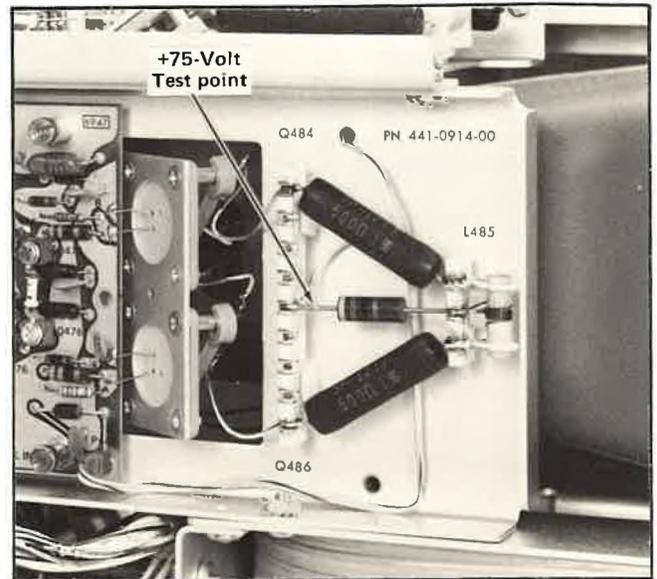
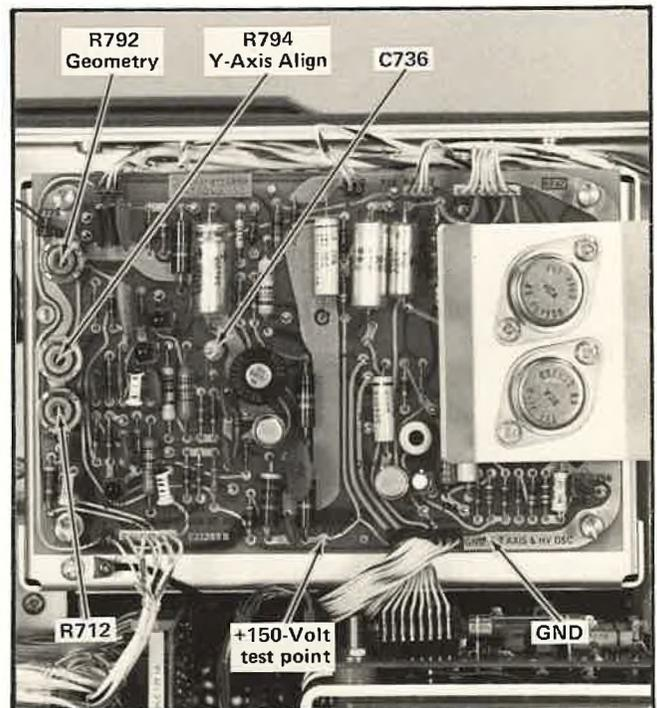

Fig. 5-3. Location of +75-Volt test point.
Fig. 5-4. Location of +150-Volt and GND test points and adjustments on Z-Axis/High Voltage Oscillator board.
a. Table 5-1 lists the power supplies in the instrument. Check each supply with the precision DC voltmeter for output voltage within the given tolerance. Test points for the +5 V, +15 V, +50 V, -15 V and -50 V supplies are on the circuit board of the Plug-in Extender. The test point for the +75 V Supply is the junction of R481 and the red-brown on white wire. The location of this test point is on a ceramic strip mounted near the CRT vertical deflection plates, and is shown in Fig. 5-3. The test point for the +150 V Supply is on the Z-Axis/HV OSC board; see Fig. 5-4.
e. ADJUST—HV ADJ, R746, on the Z-Axis/HV OSC board (see Fig. 5-4) for a meter reading of -2960 volts.
f. ADJUST—HV ADJ, R746, on the Z-Axis/HV OSC board (see Fig. 5-4) for a meter reading of -2960 volts.
c. Connect the DC voltmeter (VOM) between test point 739 and Ground on the Z Axis/HV Osc circuit board (see Fig. 5-4).